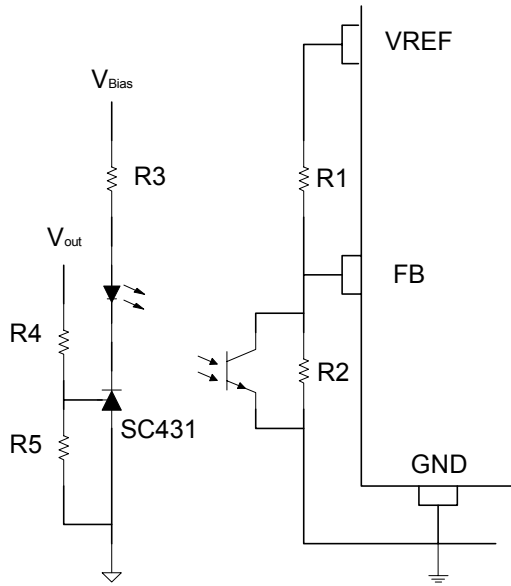

Fig.9 Cycle-by-cycle over-current limitation
SC4810 can also be configured to implement cycle-by-cycle over-current limit. As illustrated in Fig. 9, cycle-by-cycle over-current limitation can be achieved by adjusting the values of  $R1$  and  $R2$  to limit the voltage of FB pin to less than the threshold voltage (0.6V) of the hiccup over-current protection, using equations (3) and (4).